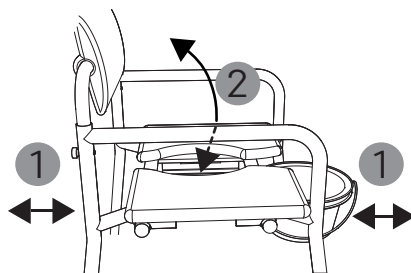

Fig. 21
1. Without putting the lid on, slide the toilet pan over the guide rail under the seat from the rear/front so that it is positioned between the plug-in tubes (1, Fig. 21).
2. Remove the cover from the hygiene opening (2, Fig. 21).
1. To empty the pan, carefully pull it out towards the rear/front (1, Fig. 21).
1. The toilet pan should not be inserted when using the product to take a shower. If necessary, carefully remove it by pulling it out towards the rear/front (1, Fig. 21).
2. It is entirely up to you whether you insert the cover for the hygiene opening into the seat surface or remove it (2, Fig. 21).